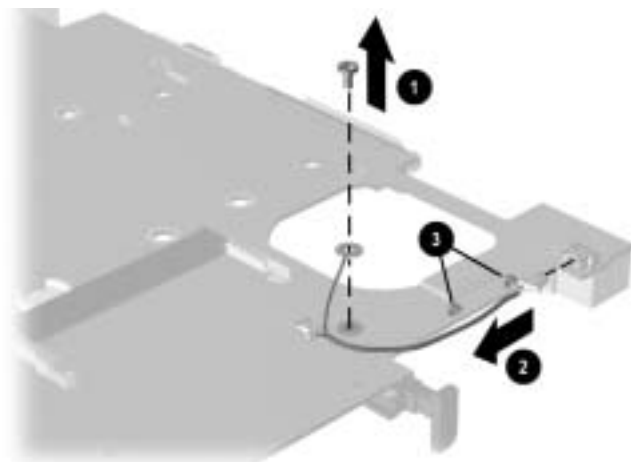

Figure 5-45. Removing the Modem Cable
3. Remove the PM2.0 \times 4.5 screw ❶ that secures the modem ground cable to the system board (Figure 5-45).
4. Disconnect the modem cable ❷ from the system board.
5. Remove the cable from the clips ❸ on the system board.